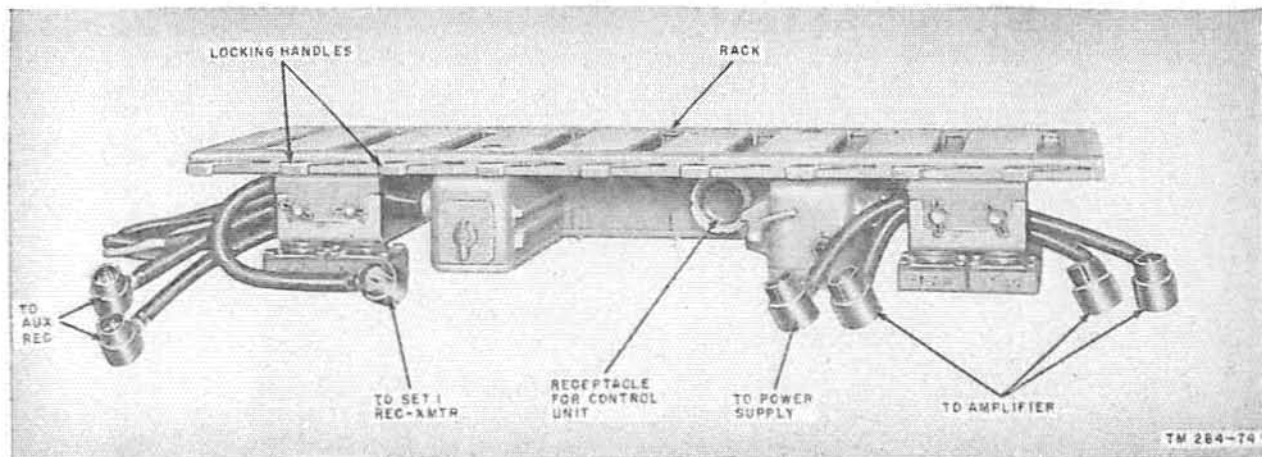

Figure 9. Mounting MT-297/GR, top view.
a. Mounting MT-297/GR (fig. 9) serves as a support for major units of the radio sets and as a junction box for interconnecting various units.
b. At either end of the mounting are two shock-mounted supports which are normally bolted to a vehicular mounting surface. A hinged mounting table is secured to these supports and a junction box is suspended from the under surface of the table near the center of the unit (fig. 9).